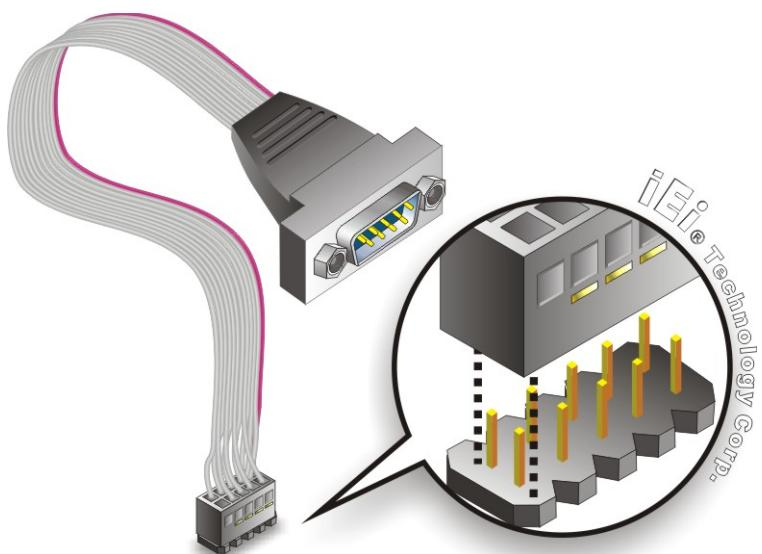

Figure 4-16: Single RS-232 Cable Installation
Step 2: Insert the cable connector. Insert the connector into the serial port box header. See Figure 4-16. A key on the front of the cable connectors ensures the connector can only be installed in one direction.